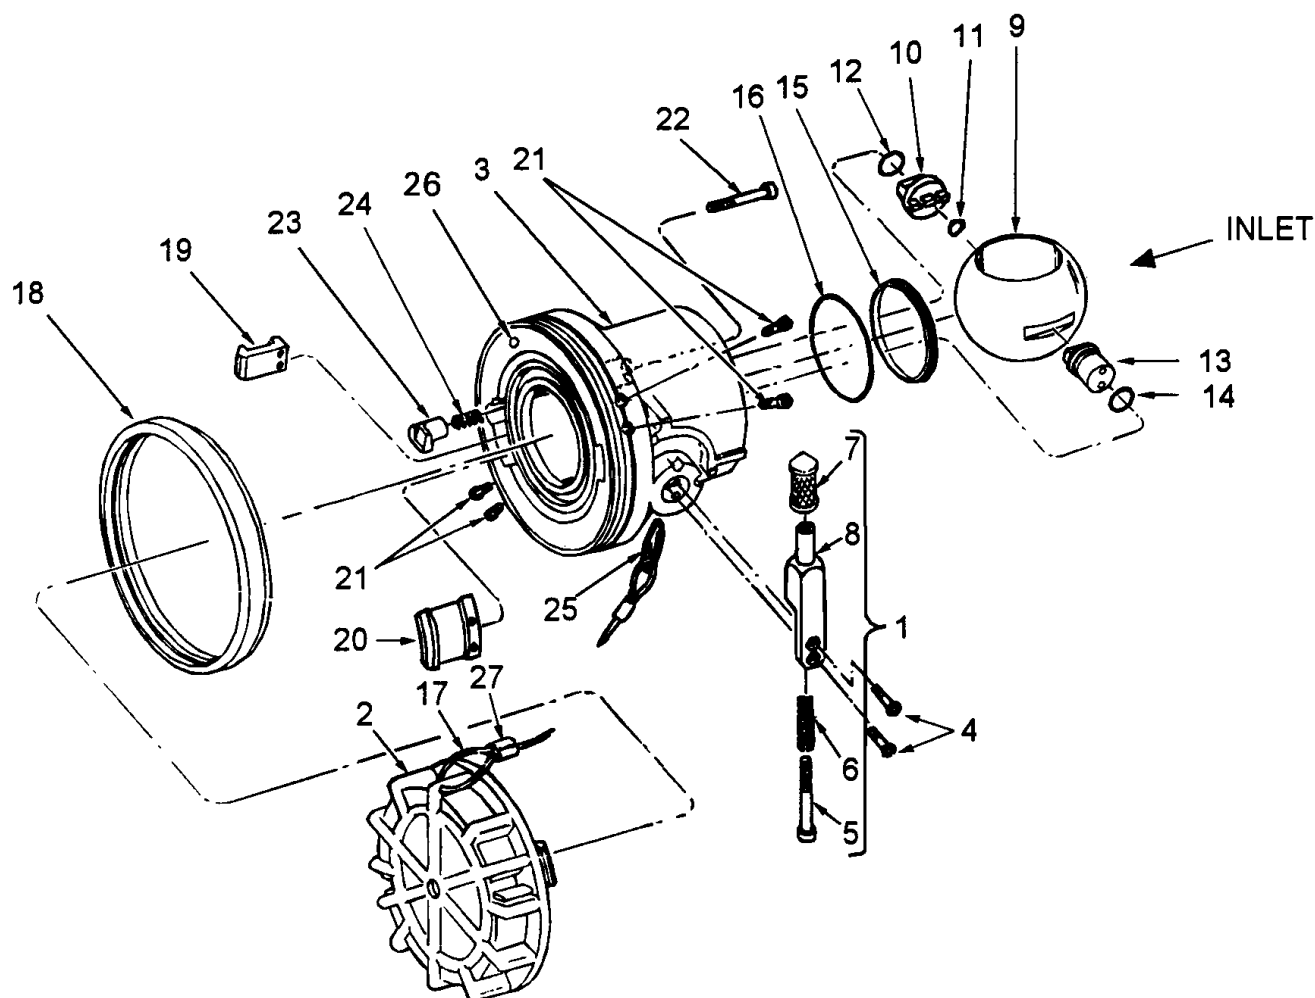

Figure 5-2. Two-Inch Valved Unisex Coupling
5.2 REPAIR TWO-INCH VALVED UNISEX COUPLING. (Refer to figure 5-2.)